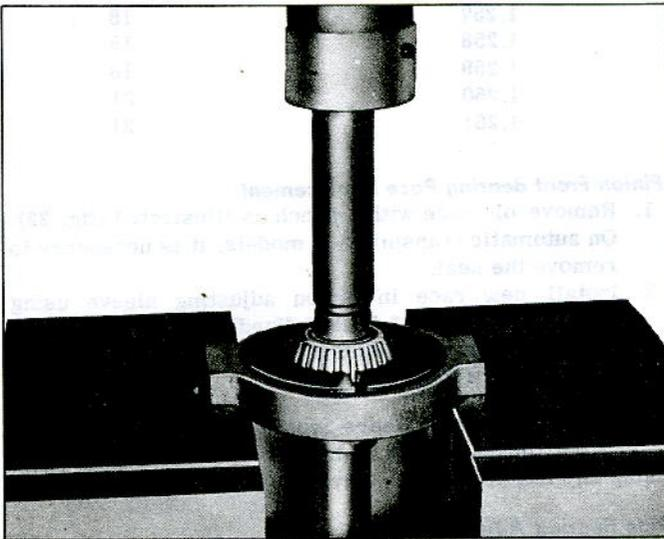

Fig. 18—Removing Pinion Bearing and J-8331 Plates and J-0358-1 Holder
- in conjunction with J-358-1 Holder, press bearings from pinion (fig. 18). It will be noted that shim(s) are used between the pinion rear bearing and pinion.